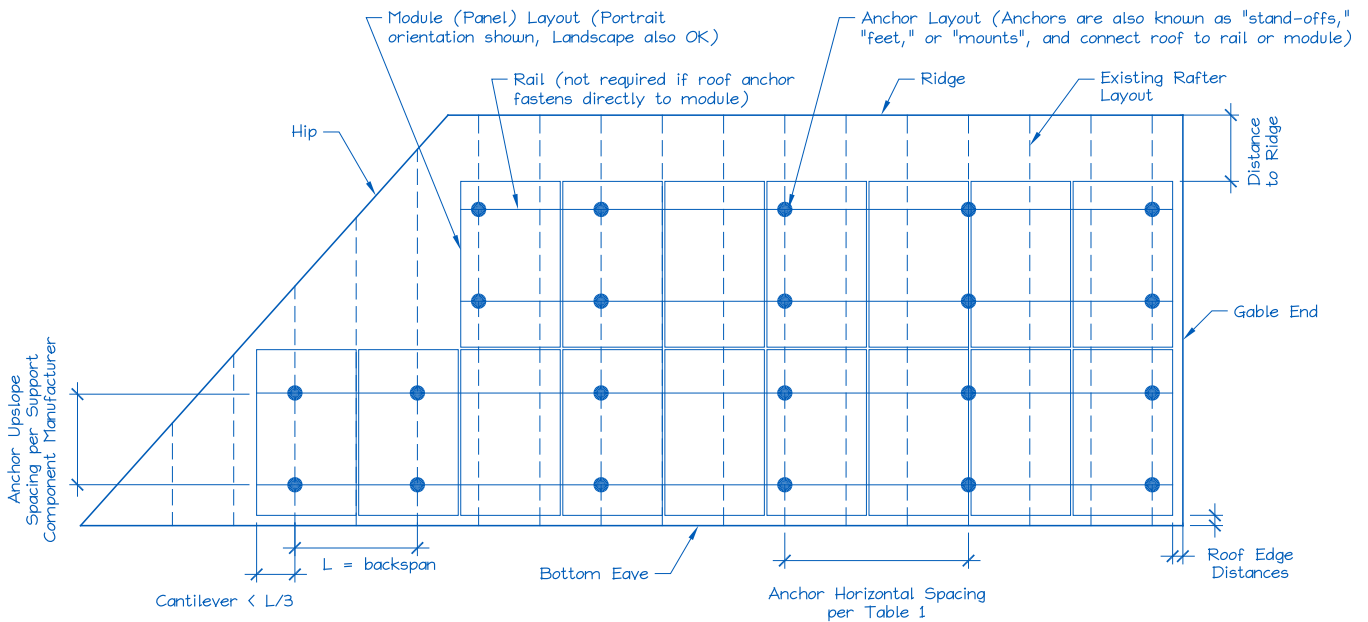

Figure 2. Sample Solar Panel Array and Anchor Layout Diagram (Roof Plan).
E. Is a roof plan of the module and anchor layout attached? (**Figure 2**)
- 1) Proposed anchor horizontal spacing (**Figure 2**): _____' - _____"ft-in
1. Anchors are also known as "stand-offs," "feet," "mounts" or "points of attachment." Horizontal anchor spacing is also known as "cross-slope" or "east-west" anchor spacing (Figure 2).